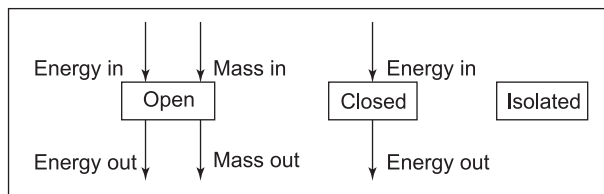

Figure 1.7 Different types of systems—open, closed and isolated
4. **Open system:** A system wherein both mass and energy transfer take place between system and surroundings is called an open system (Figure 1.7). For example, human body receives both energy and mass in the form of food and air.
(Figure 1.7). For example, a bottle filled with water and closed by a lid. There is no mass transfer but there could be energy transfer.
6. **Isolated system:** This is a system in which neither mass nor energy can be transferred from/to the system. For example, a thermos flask in its initial stages (Figure 1.7).